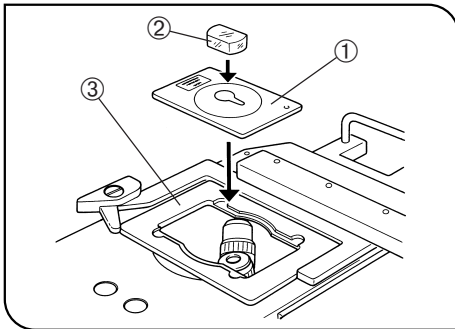

Fig. 6
(Figs. 6 & 7)
1. Set the stage plate ①. (Fig. 6)
2. Place the specimen ② on the stage plate with the observation surface facing downward. (Fig. 6)